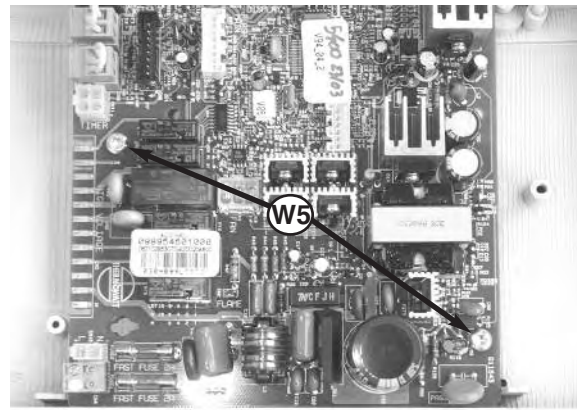

Fig. 104
8. To remove the main PCB disconnect all electrical connections and remove the two screws **W5** (see Fig. 104);